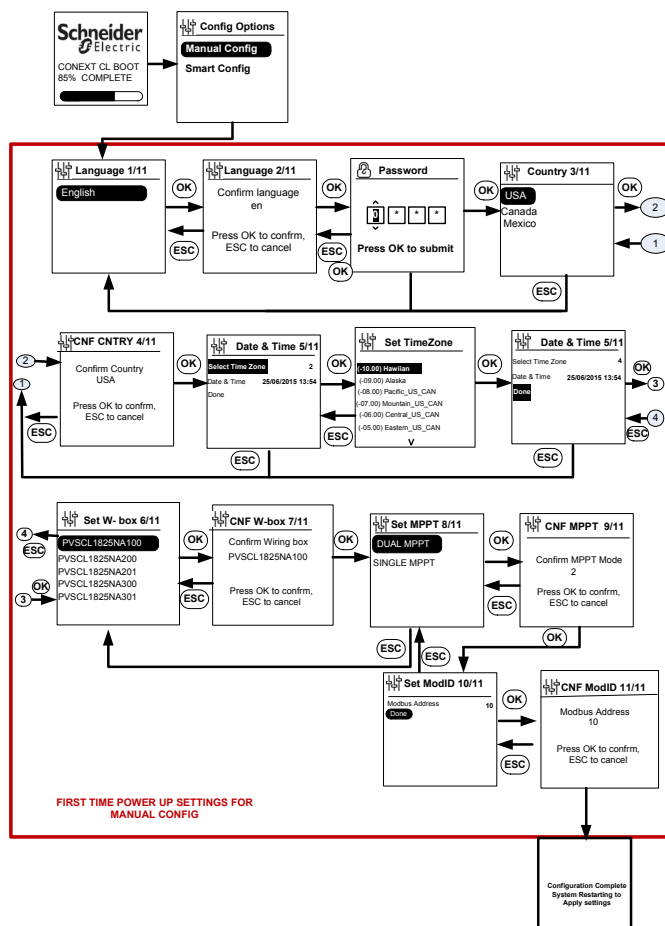

Figure 1-16 Configuration Info screen
- t) Once firmware is upgraded successfully the inverter DUI shows the first time configuration screen. User needs to configure the inverter appropriately as shown in Figure 1-16 on page 1-18. Once configured, the inverter will reboot and be ready for operation.